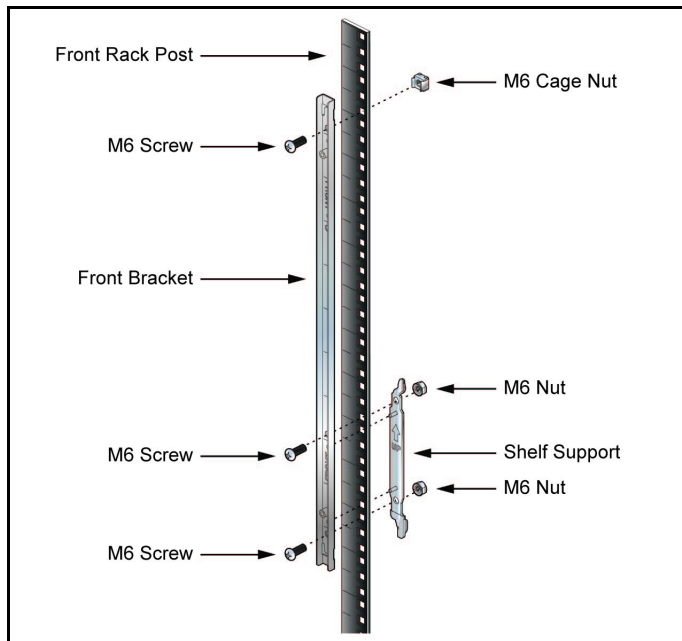

Figure 5: Left Front Post Assembly: Four Post Rack Mount
**Step 1** Attach the front bracket and shelf support to the left front rack post, as shown in Figure 5. An up arrow is printed on the shelf support to indicate its proper orientation.